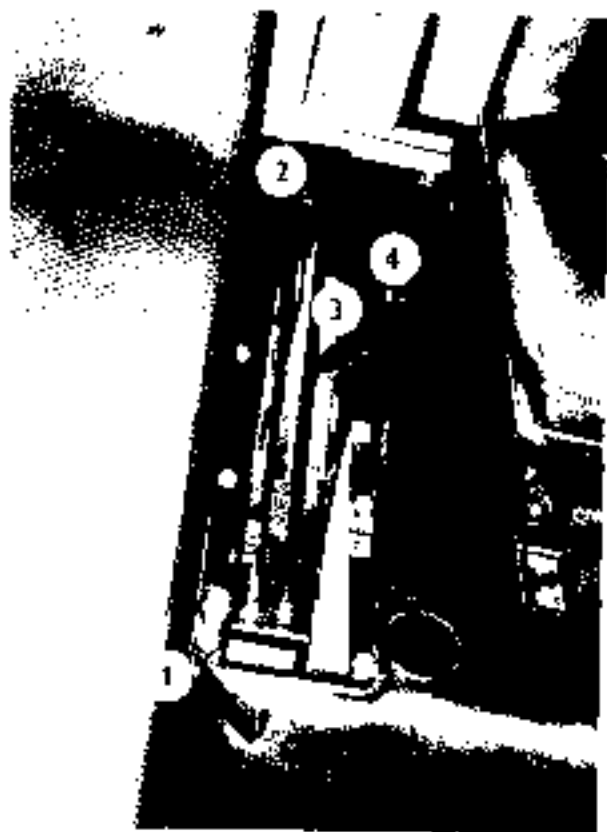

Fig. 20
7 Reaction rate lever (Fig. 20'1).
8 Hydraulic power lift outer circuit lever (Fig. 20'3).
9 Hydraulic power lift inner circuit lever (Fig. 20'2).
- 10. Hydraulic power lift system selector (Fig. 20:4).
Hydraulic power lift system „ZETORMATIC“ is used to control agricultural machines and implements. It consists of two circuits, each of which is controlled by a separate lever — inner circuit (Fig. 20,2) and outer circuit control lever (Fig. 20,3). The functions of inner circuit are designated by a label (Fig. 22 and 23).
1) Hydraulic power lift system preselector (Fig. 20,4) selects control type. Its three positions are designated by marks P, M, D (Fig. 22):
2) Reaction rate lever (Fig. 20,1) is intended to perform several functions: